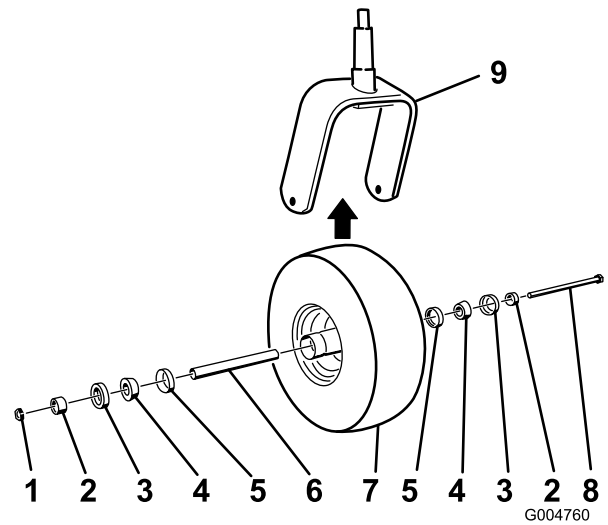

Figure 52
5. Assemble the castor wheel by pushing the cone bearings and seals, packed with grease, into the wheel hub, positioned as shown in Figure 52.
2. Remove the locknut from the bolt holding the castor wheel assembly between the castor fork (Figure 52).